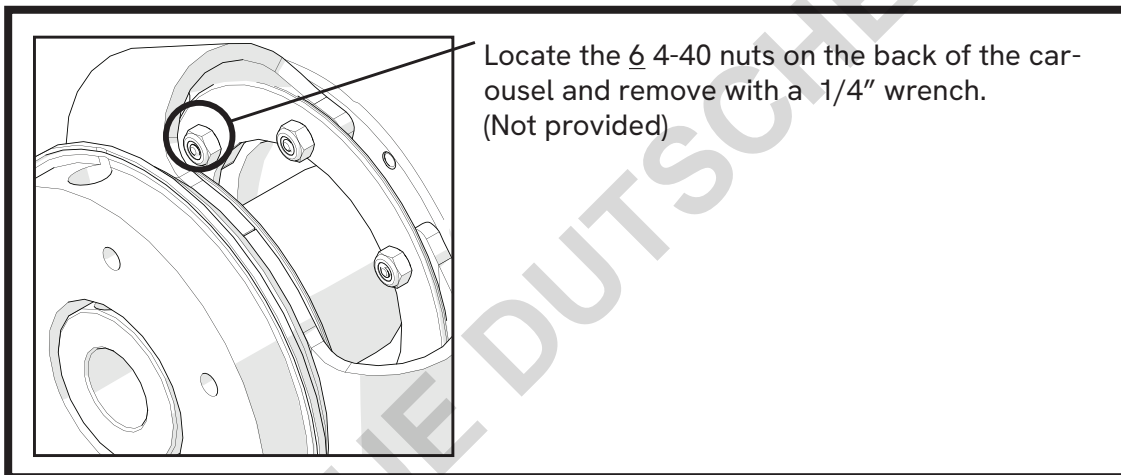

Figure 5
2. Remove (6) 4-40 nuts with 1/4" combination wrench (Figure 5) from back of lock ring.